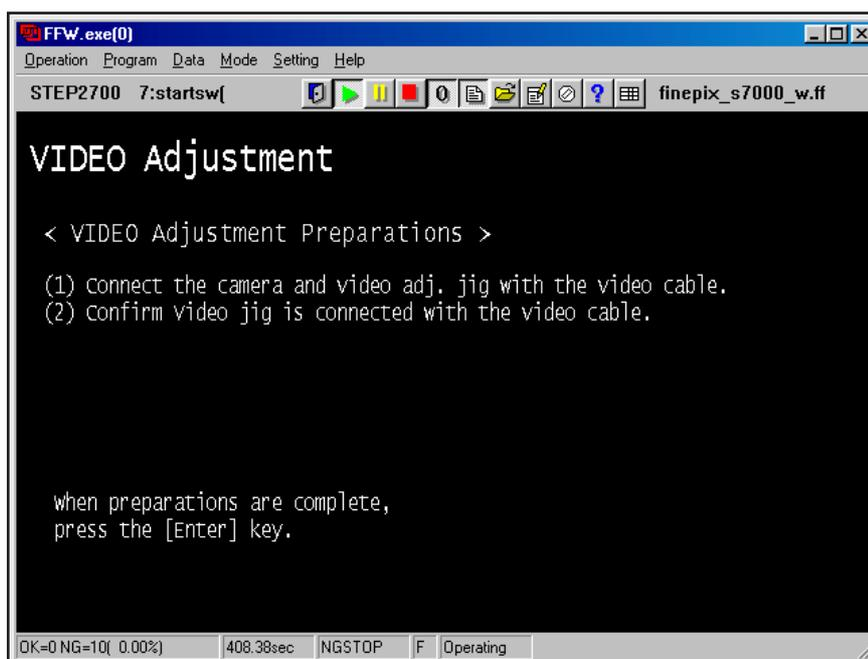

Fig.36
---->The [VIDEO Adjustment Preparation screen (Fig.36)] appears.